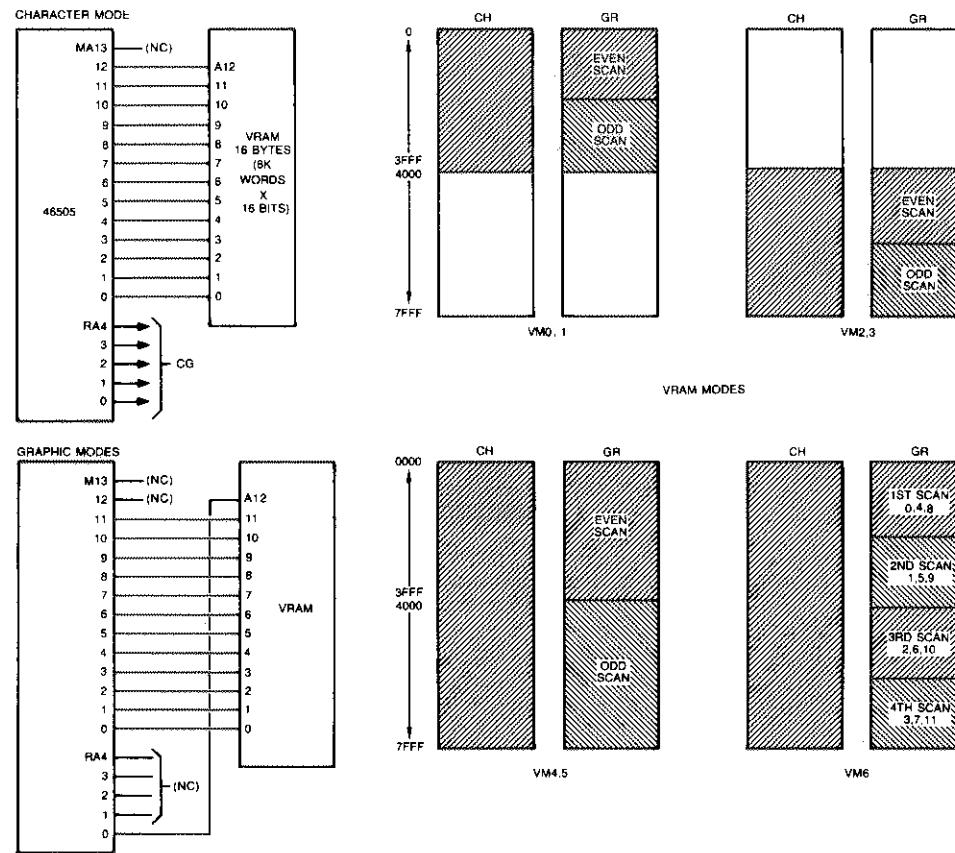

FIGURE 2-87. APX-ICRT VRAM MEMORY CONFIGURATION
CPU data to be written to or read from the system data bus are directed through the GAIBVD. Display data are sent to one of two destinations: in character mode, the data are used to select the character pattern from the 8K-byte EPROM character generator (see Section 2.5.6.1); in graphic mode, data from the VRAMs are converted to display pixels based on programmed resolution and color information (Section 2.5.6.2), and the character generator is not used. High and low resolution displays are possible in each mode, enabling a wide variety of display formats to be established. Tables 2-47 and 2-48 summarize the most common modes, and Figure 2-87 diagrams VRAM memory allocation.
- VM6: 0000-7FFF; R9 = 03 and R6 (vertical display height) = 64. 32K bytes VRAM, 400 line display without repeat. Address space is split into 48K-byte blocks. The first scan uses raster data from the lowest address block, the second scan from the second block, the third scan from the third block, etc., and the cycle is repeated for subsequent scans. (Refer to Figure 2-87.)